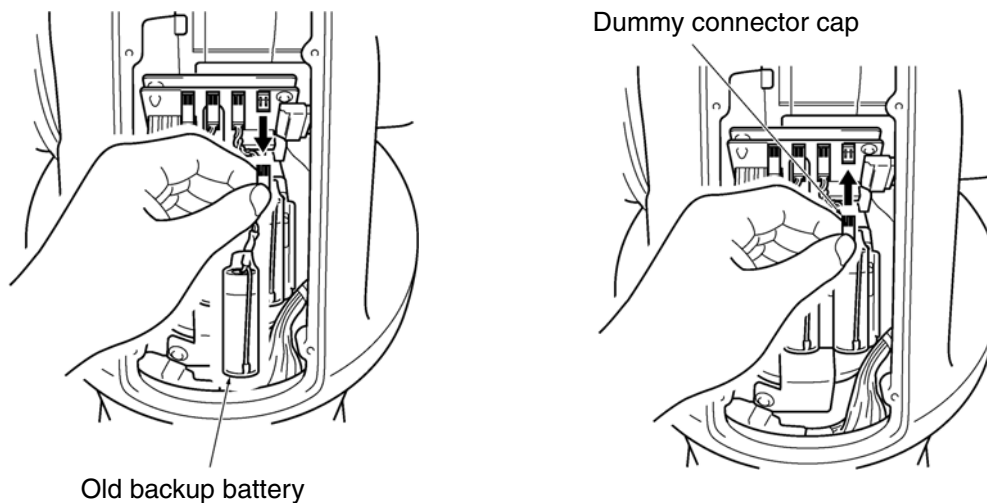

Figure 6-7. Reconnecting Dummy Connector Cap
8. Remove the last old battery and connect the dummy connector cap disconnected in Step 4. See Figure 6-7.